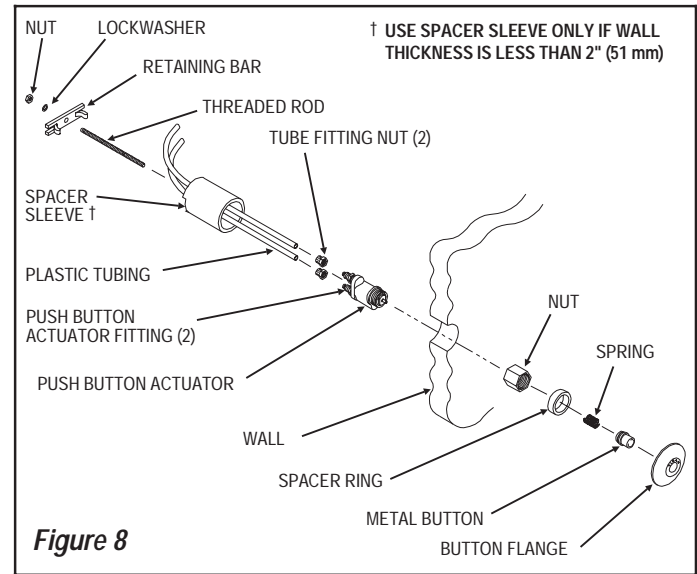

Figure 8
**INSTALLATION OF MODEL HY-100-A FIXTURE WALL METAL PUSH BUTTON ACTUATOR (Figure 8)**